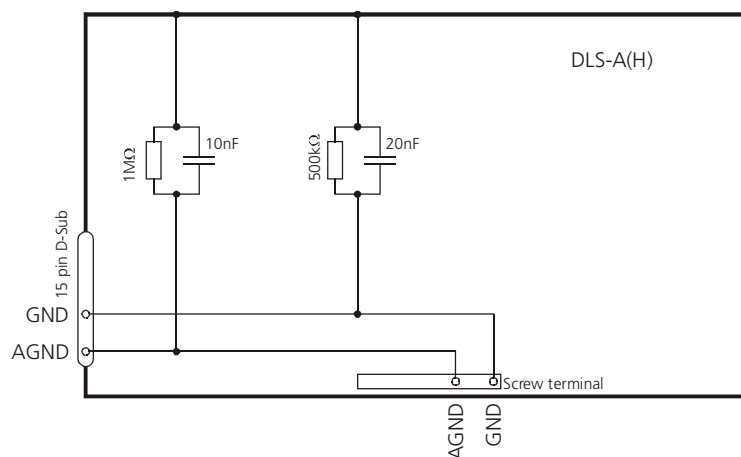

Fig. 3 Connection between shield and ground
The DLS-A(H) contains two electrical isolated grounds, the general ground (GND) and the analog ground (AGND). GND and AGND is connected to the housing by a RC element. Please see figure 3